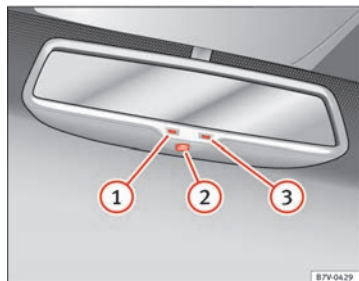

Fig. 73 Automatic anti-dazzle function for rear vision mirror
Legend for the Fig. 73:
- ① control lamp
- ② Control
- ③ Light incidence sensor
This function can be activated and deactivated by pressing the rear vision mirror switch ⇒ Fig. 73 ②. When it is activated, the warning lamp lights up ①.